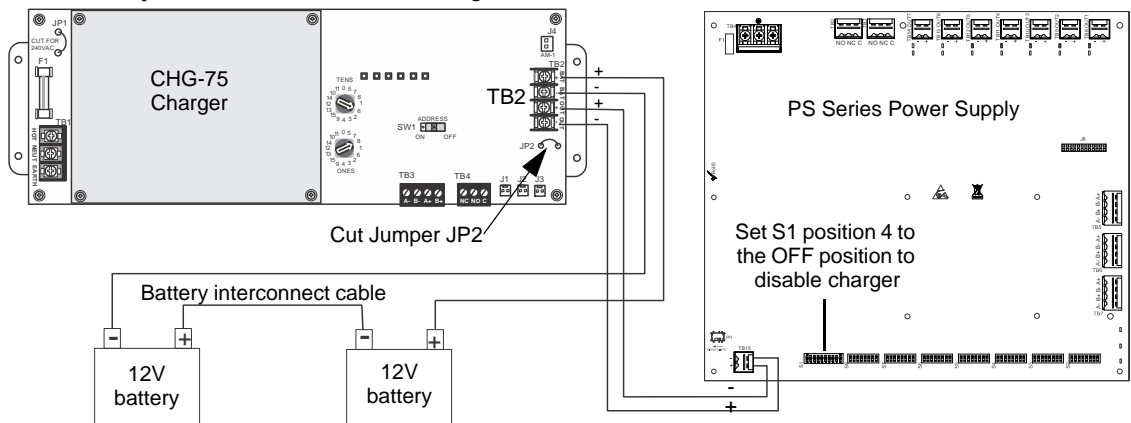

Figure 2.10 Connecting the Power Supply to a CHG-75 Charger
2. Connect the battery cables between TB15 (+ and -) on the PSE and the CHG-75 charger output circuit (TB2: Out+ and Out-) as shown in Figure 2.10. Be certain to observe polarity.